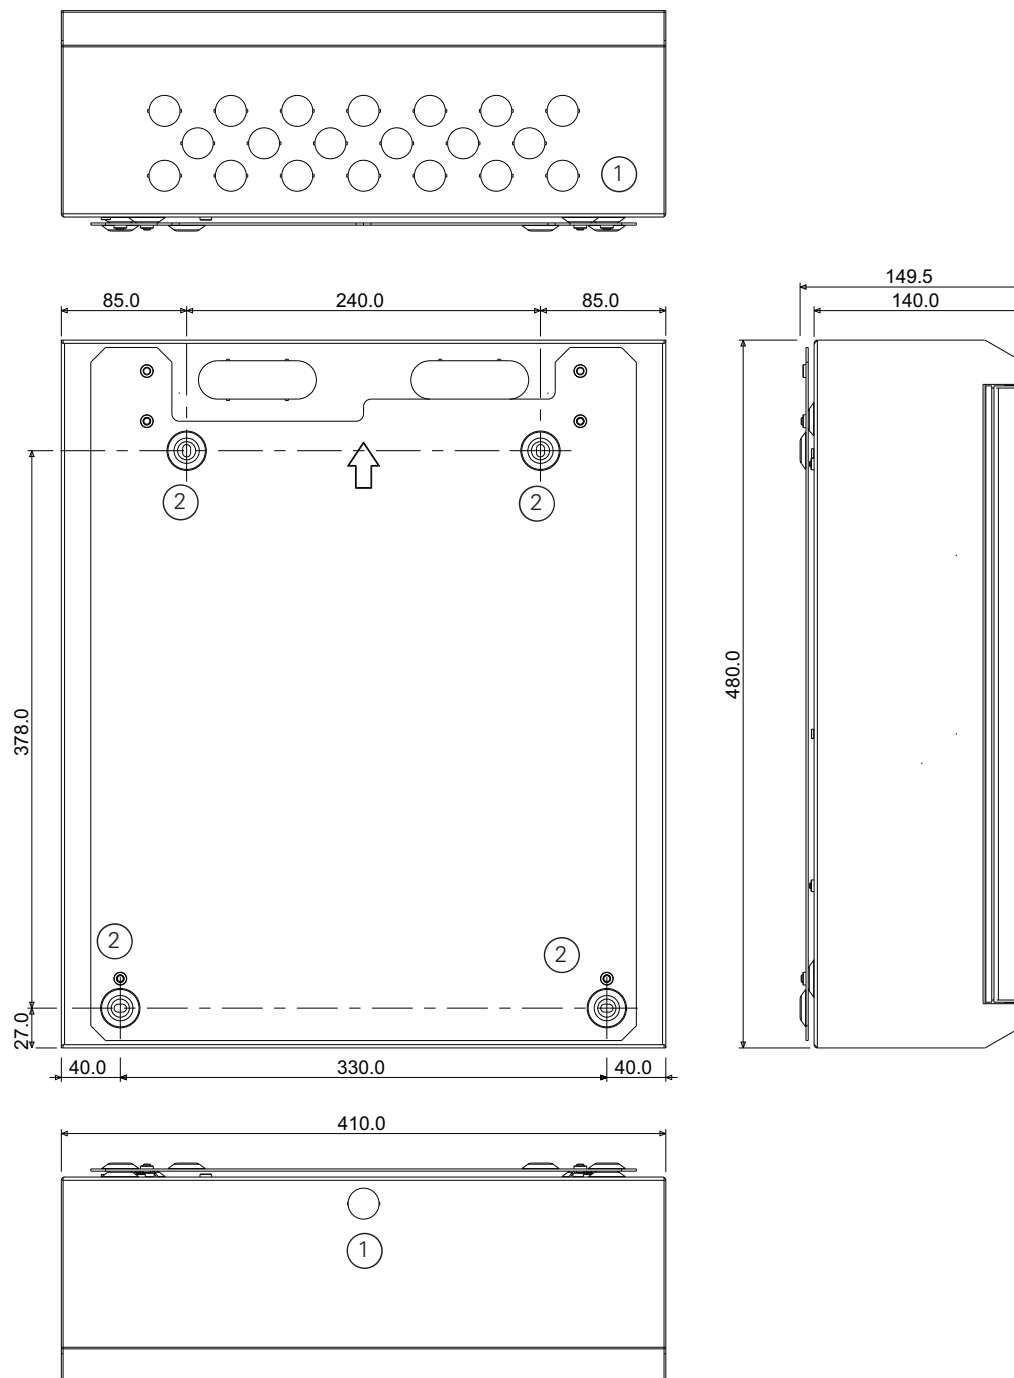

Fig. 14: FireClass Single Loop Panel Shallow and FC8AS FireClass AC Repeater - Overall and Fixing Dimensions Knockouts $\varnothing 20$ mm (13x)
- Hold the mounting plate up to the wall and mark on the wall a position for the upper mounting hole. Make sure that the plate is the right way up. See the arrow pointing upwards on the mounting plate. Refer to Fig. 14.